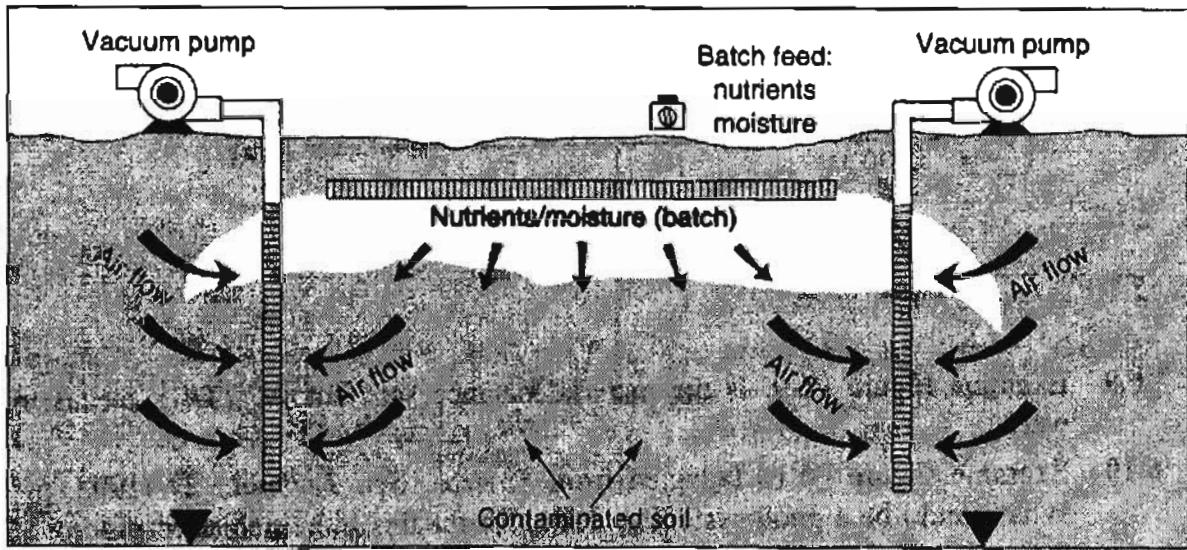

Figure P6.10
- *6.10** Examine Figure P6.10 (adapted from *Environ. Sci. Technol.*, 27 (1993, p. 1975)). What would be a good system to designate for this bioremediation process? Sketch the process and draw the system boundary. Is your system open or closed? Is it steady state or unsteady state?